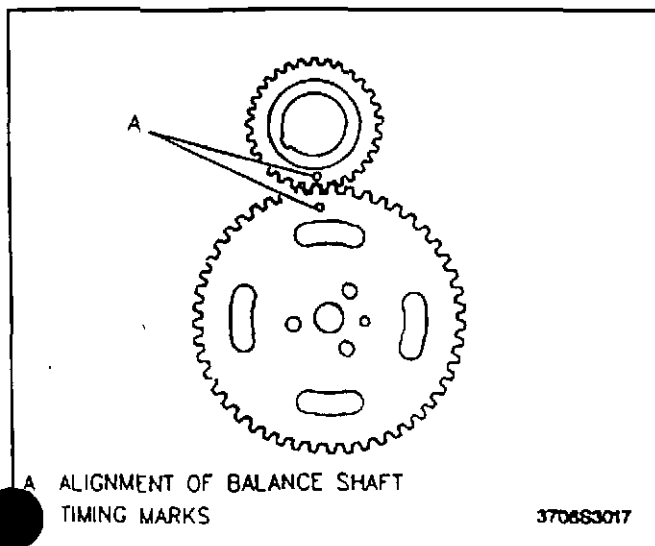

Figure 37—Balance Shaft Drive Gear-to-Driven Gear Timing Marks
- Make sure the timing marks on the balance shaft drive gear and driven gear line up (figure 37).
Install or Connect (Figures 37 and 38)